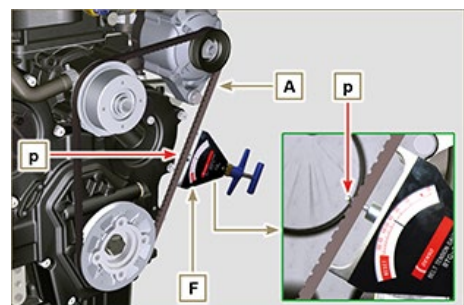

Fig 5.10
5. Check by the appropriate tool that at point **p** the tension value is between **70 and 75 Hz** for V-belt of **9 mm** and **80 and 85 Hz** for V-belt of **17 mm** (**Fig. 5.10**) (**H**).